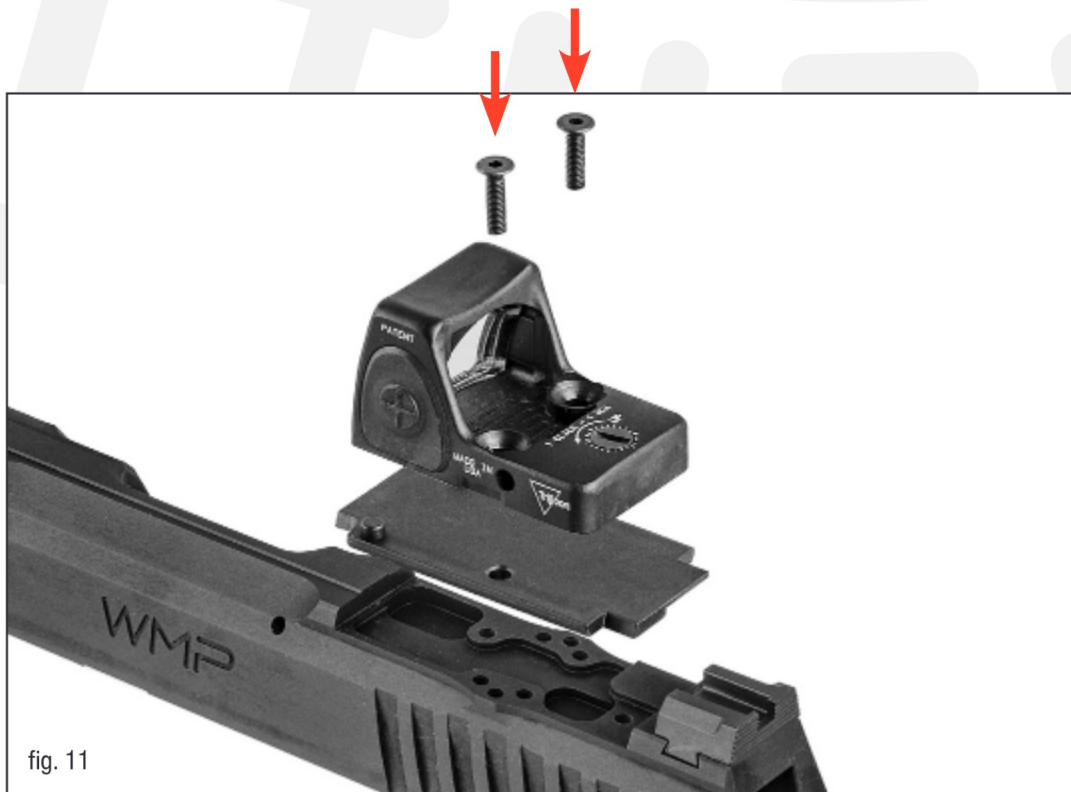

fig. 11
- Place the adapter in the slide cut. (fig. 11).